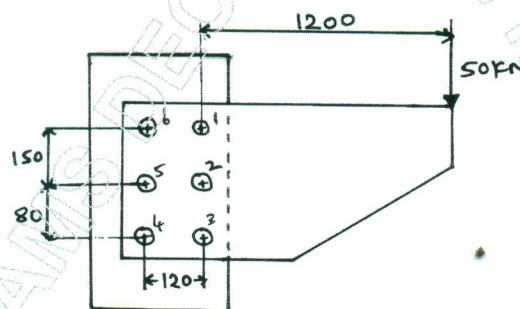

Fig.Q7(b)
- b. Determine the diameter of rivet for the joint shown in Fig.Q7(b). The allowable stress in the rivet is 100 N/mm^2 .